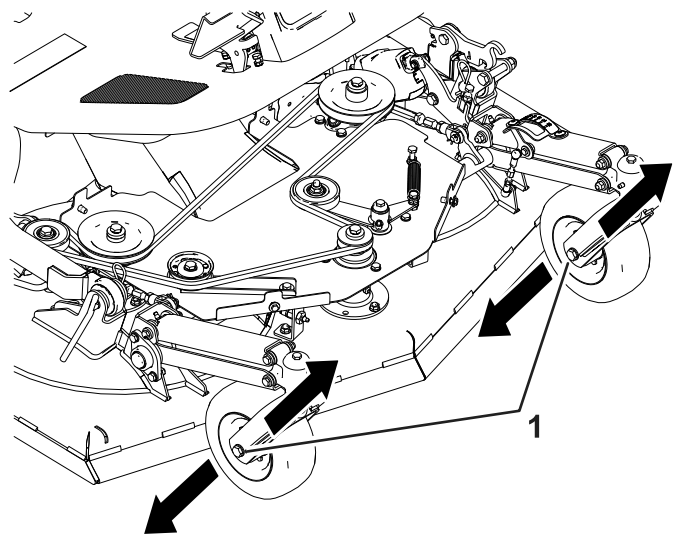

Figure 103
- A. Loosen the caster-wheel bolt on one side (Figure 103).
- B. Adjust the caster wheel bolt in the slot and tighten the bolt (Figure 103).